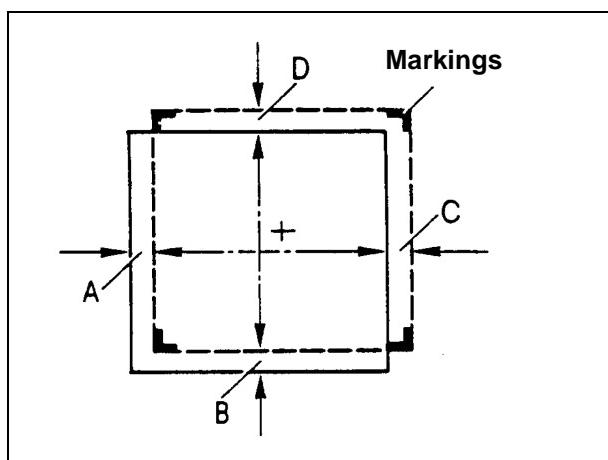

Fig. 6
- Develop the film and measure the deviation between the light and the radiation field. Acceptable deviation $\pm 1.7\%$ of SID, (Fig. 6).